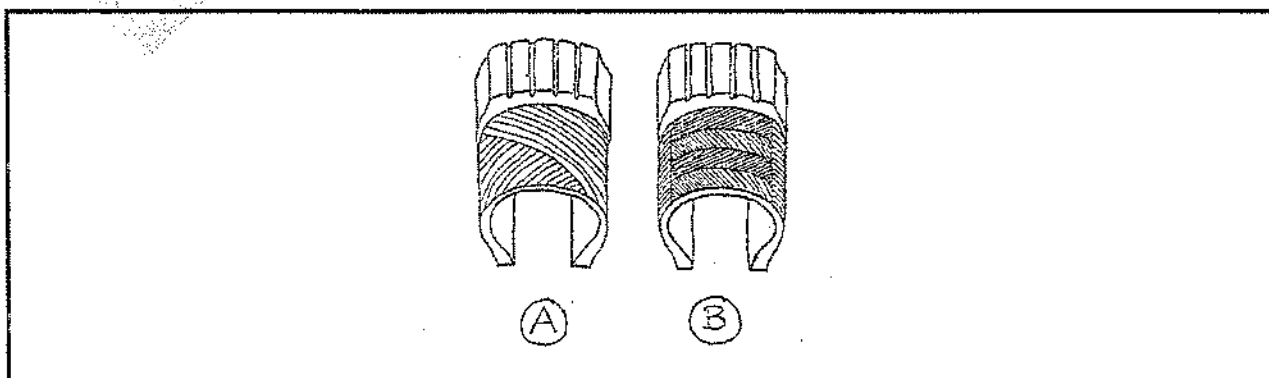

FIGURE 4
5.2 FIGURE 4 below shows two sketches of tyre-ply constructions.